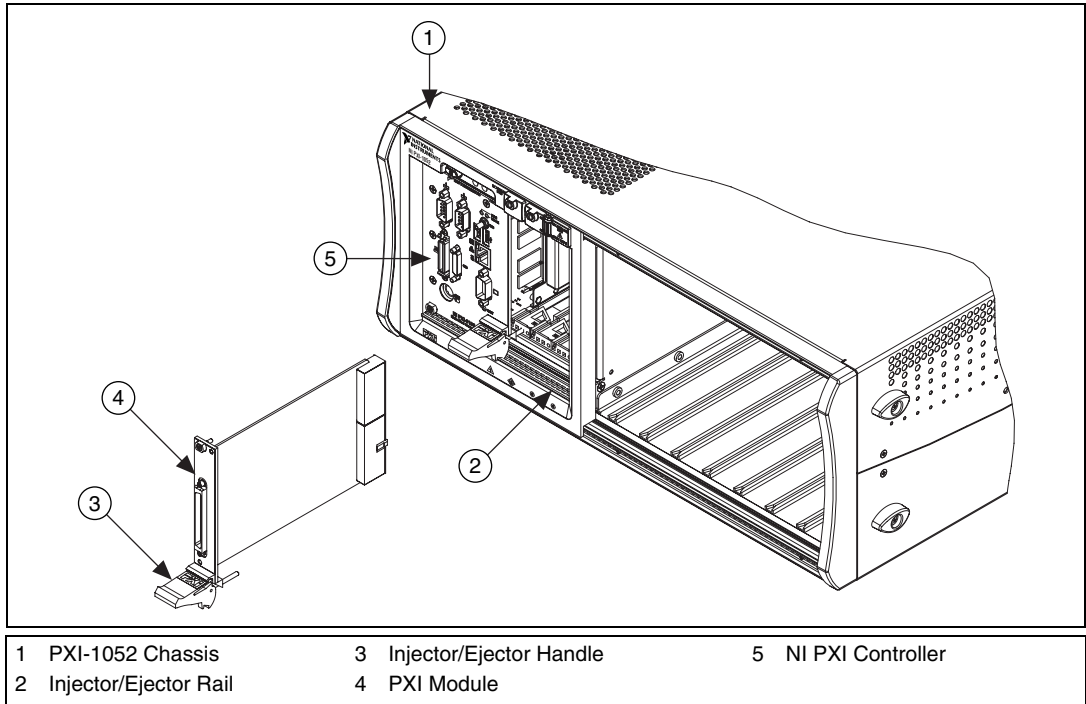

Figure 2-4. Installing PXI or CompactPCI Modules
- a. Place the module card edges into the front module guides (top and bottom). Refer to Figure 2-4.